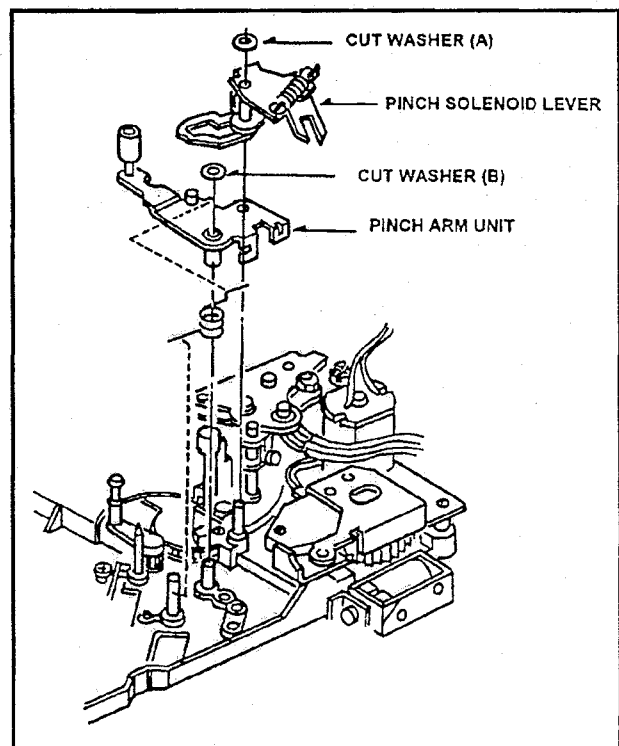

Fig. M10
2. Remove the Pinch Solenoid Unit (Refer to item 4).
3. Remove the Cut Washer (A) to remove the Pinch Solenoid Lever as shown in Figure M10.